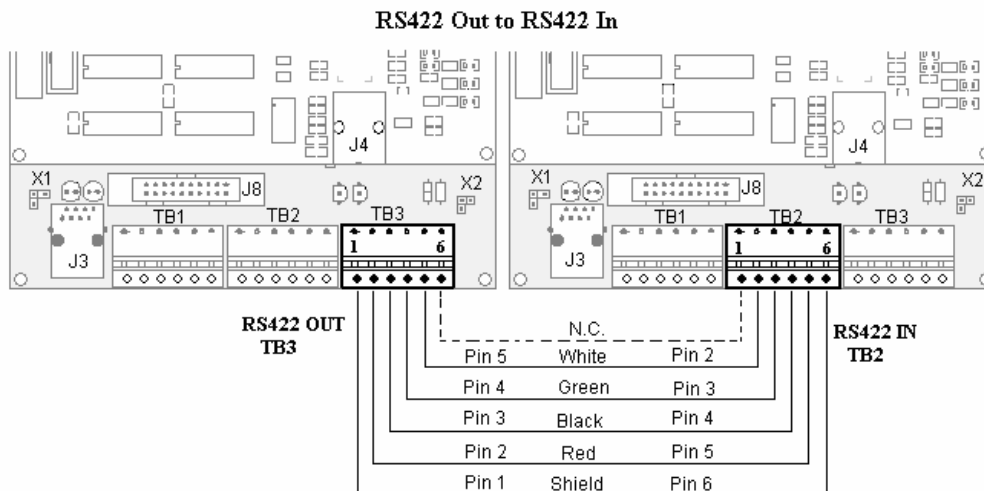

Figure 22: Connection between Two Primary Displays
5. In **Figure 22**, the signal connections between two controllers are shown.